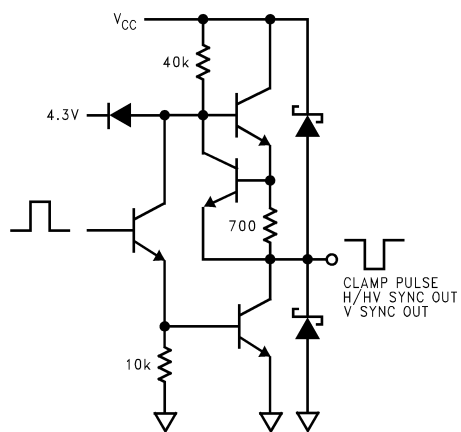
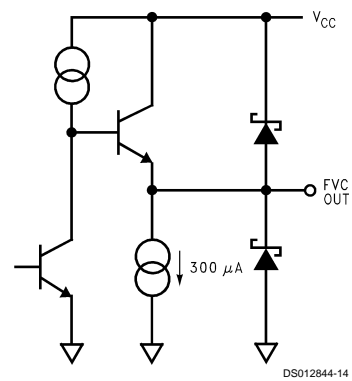

FIGURE 4.
FIGURE 14.
See Figure 4 through Figure 14 for input and output schematics.
**Pin 3 — CLAMP PULSE:** Active-low clamp pulse output. See Figure 4 for the output schematic.
**Pin 10 — H/HV SYNC OUT:** The sync processor outputs active-low H/HV sync derived from the active sync input (pin 9 or pin 12). Pin 10 stays low in the absence of sync input. See Figure 4 for the output schematic.
**Pin 16—V SYNC OUT:** The sync processor outputs active-low V sync derived from the active sync input (pin 8, pin 9 or pin 12). Pin 16 stays low in the absence of sync input. See *Figure 4* for the output schematic.
be taken when further loading this pin, since during the vertical interval it presents a high output impedance. Excessive loading can cause top-of-screen phase recovery problems. See *Figure 14* for the output schematic.